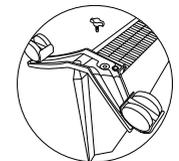

Figure. 7
3. Secure the chassis using the supplied mount (Fig. 7).